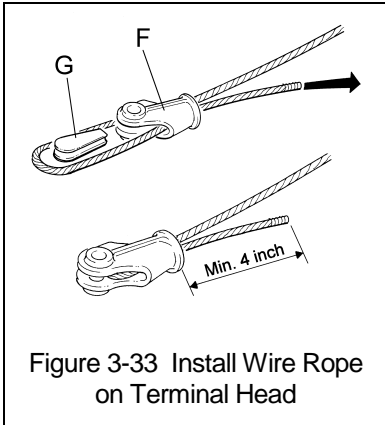
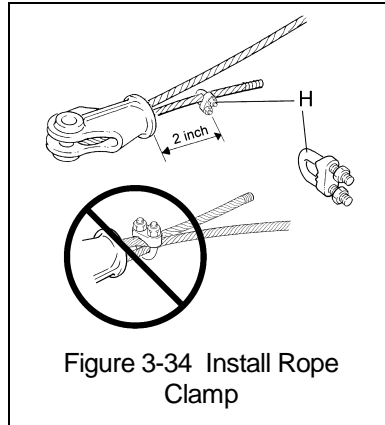

Figure 3-33 Install Wire Rope on Terminal Head
Figure 3-34 Install Rope Clamp
- 4) Insert the end of the rope into the Terminal Head (F) and making sure at least 4 inches of rope extend beyond the Terminal Head (F). Install the Wedge (G) into the Terminal Head (F) and pull the rope until the Wedge (G) and the rope are tightly seated in the Terminal Head (F) (Figure 3-33).
- 5) **⚠ WARNING** Make certain the wire rope is tight against the Wedge (G) in the Terminal Head (F).
- 6) Attach the Rope Clamp (H) 2 inches from the Terminal Head (F) and fully tighten the nuts. Do NOT clamp the free end of the rope to the load bearing rope fall (the rope between the Terminal Head (F) and the Bottom Block) (Figure 3-34).